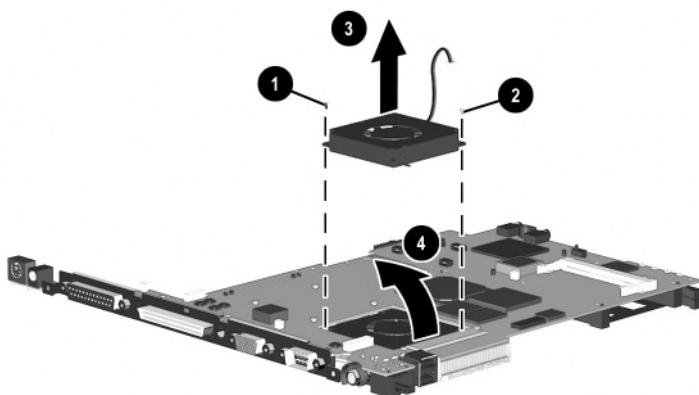

Figure 5-29. Removing the Fan on an Evo Notebook N600c
5. Remove the PM2.0 $\times$ 4.0 screw ❶ and PM2.5 $\times$ 5.0 screw ❷ that secure the fan to the system board (Figure 5-29).
6. While holding the system board above the work surface, push the left side of the fan up ❸ from the bottom of the system board.
7. When the left edge of the fan has cleared the system board, slide the fan to the left ❹ and out of the heat sink.